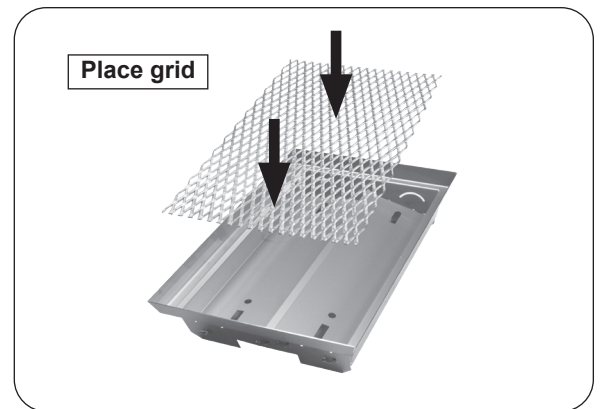

Fig. 38-2 Place grid inside basket
1. Place grid inside the basket frame (see Fig. 38-2).